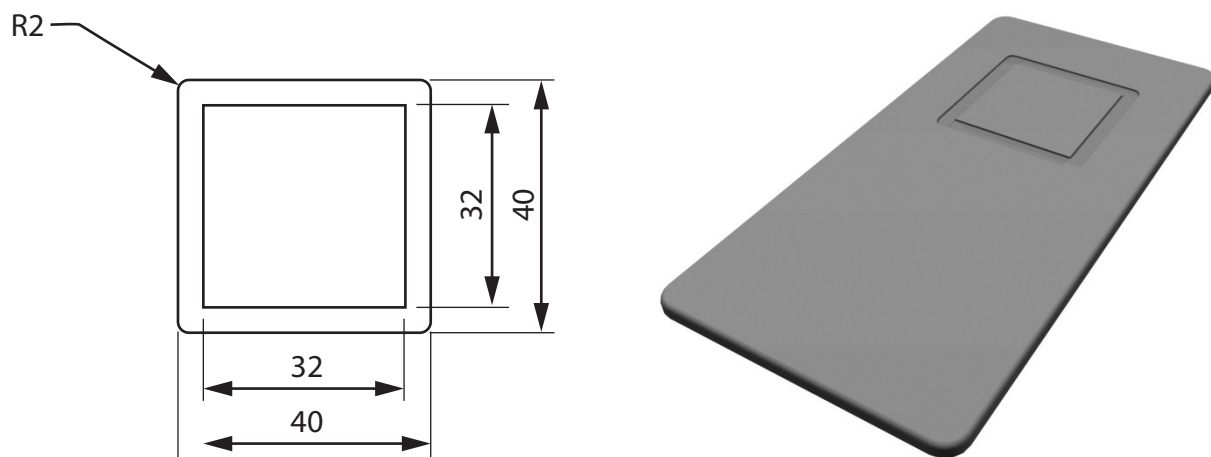

Figure 2
- (d) Figure 2 shows the front of the mobile phone case with the routed logo and the dimensions of the logo.